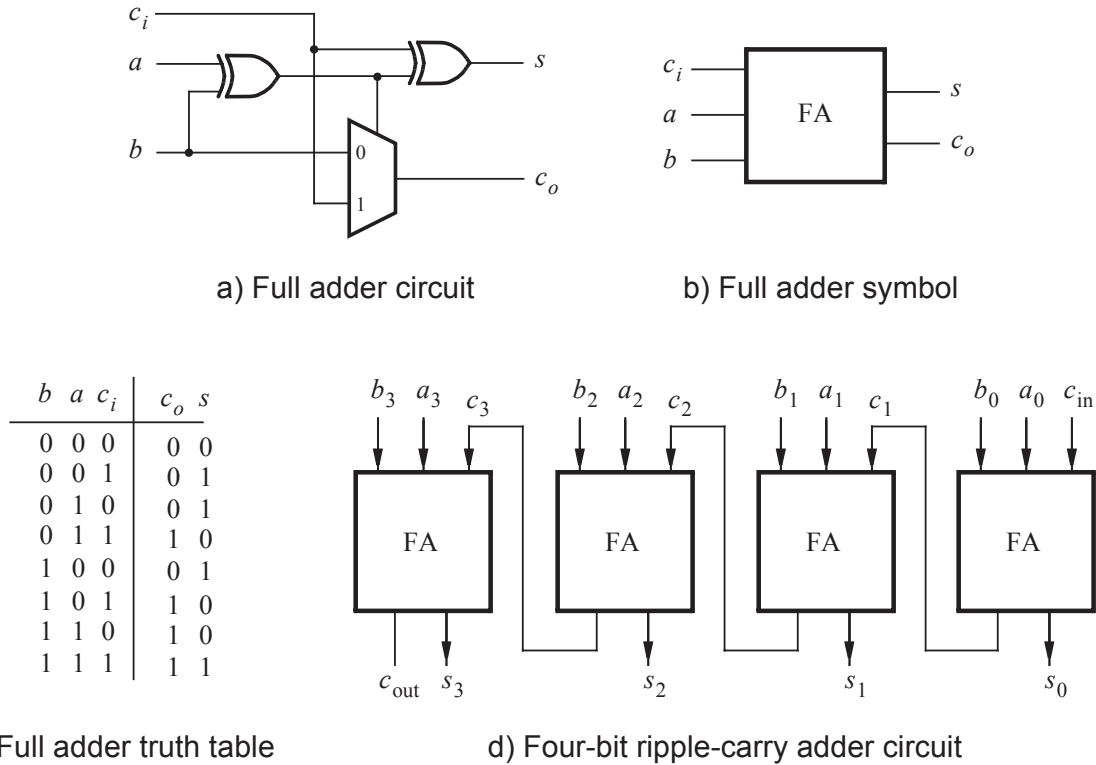

Figure 1: A ripple-carry adder circuit.
Figure 1(a) shows a circuit for a *full adder*, which has the inputs a , b , and c_i , and produces the outputs s and c_o . Parts b and c of the figure show a circuit symbol and truth table for the full adder, which produces the two-bit binary sum $c_o s = a + b + c_i$. Please note that the $+$ operator here means addition and not logic OR. Figure 1(d) shows how four instances of this full adder module can be used to design a circuit that adds two four-bit numbers. This type of circuit is called a *ripple-carry* adder, because of the way that the carry signals are passed from one full adder to the next. Write Verilog code that implements this circuit, as described below. Be sure to use what you learned about hierarchy in Lab 2.
1. Draw a schematic showing your code structure with all wires, inputs and outputs labeled. Your schematic should resemble Figure 1(d), though it should also contain **module** and **signal labels**, and shows **external connections to the switches and LEDs**. Be prepared to explain it to the TA as part of your preparation. **(PRELAB)**